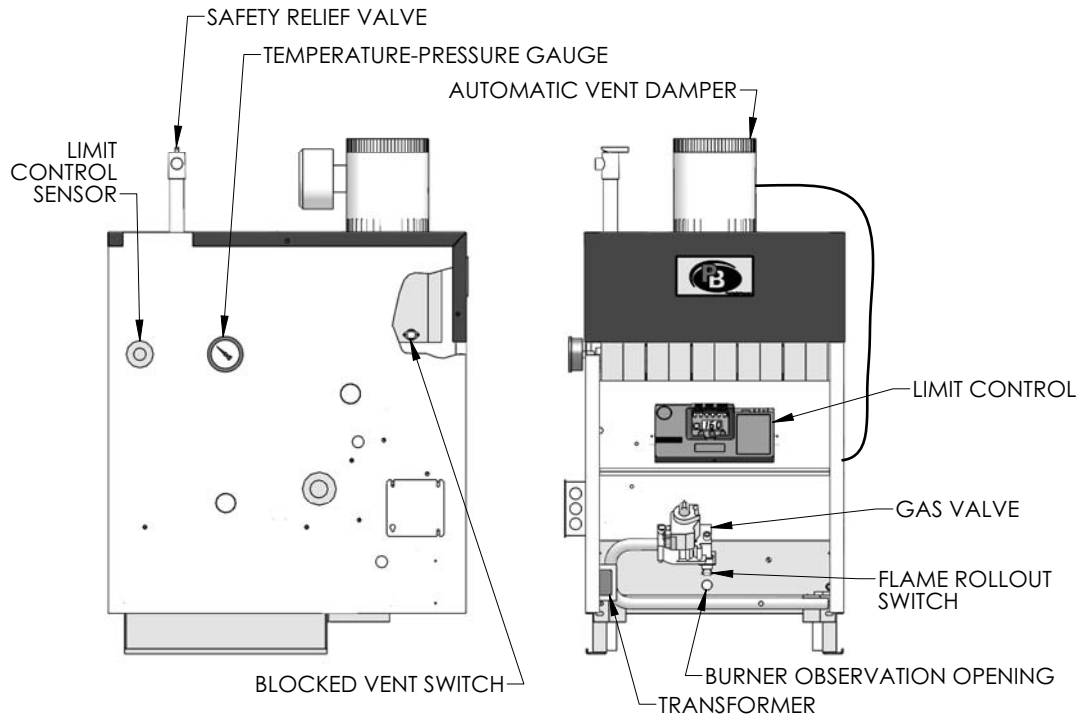

Figure 1: Control Locations
1. **Limit.** See Figure 1. A device which automatically interrupts boiler operation when the water temperature exceeds the set point. Maximum allowable temperature is 240°F (115°C).
2. **Flame Rollout Switch.** See Figure 1. A device which automatically interrupts boiler operation when flames or excessive heat are present in the combustion area. The control is a single use device. If the control is activated to interrupt boiler operation, do not attempt to place boiler in operation. Contact a qualified service agency.
3. **Blocked Vent Switch (Vent Safety Shutoff Switch).** See Figure 1. A device which automatically interrupts boiler operation when there is a blockage in the vent pipe or chimney. The control is a manual reset device. The control is located on the draft hood relief opening. If the control was activated to interrupt boiler operation, do not attempt to place boiler in operation. Contact a qualified service agency.
5. **Gas Valve.** The gas valve regulates gas flow to the burners and pilot. See Figure 1.